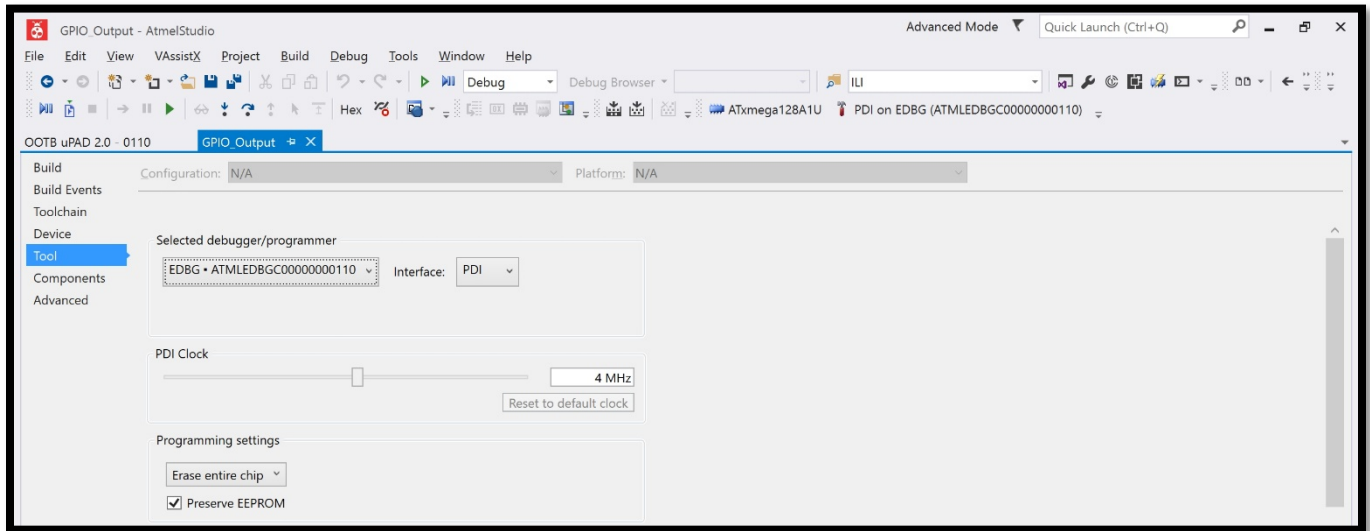

Figure 10: Selecting the on-board μ PAD debugger
- Connect the μ PAD to your computer with your USB A/B connector cable. Select the on-board Atmel Embedded Debugger (EDBG) as the *Selected debugger/programmer*, within the project *Tool* menu, as done in Step 7. Also verify that the *Interface* is chosen to be *PDI* (as shown in Figure 10). Finalize these changes by saving the project.
14. If the EDBG device does not appear as shown in Figure 10, there are a few possibilities to correct this problem. Try the first one below; if this does not work then try the second one.